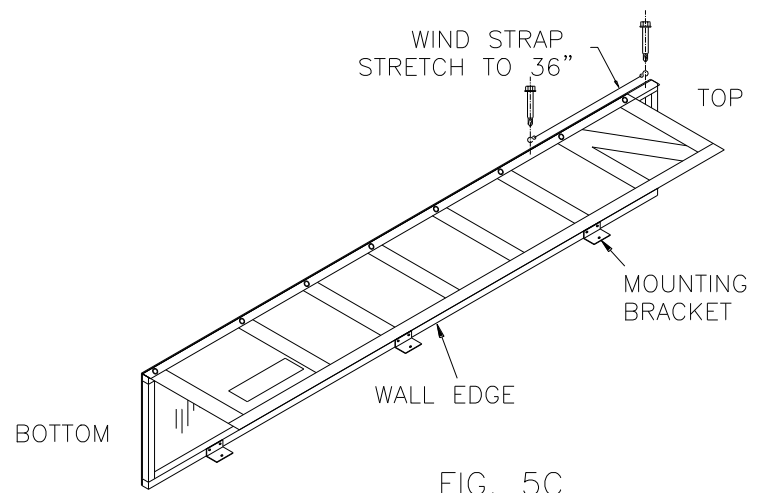

FIG. 5C
- a. **Place Wind Strap "S" hook** at hole at top of Vertical Frame (Figure 5c).